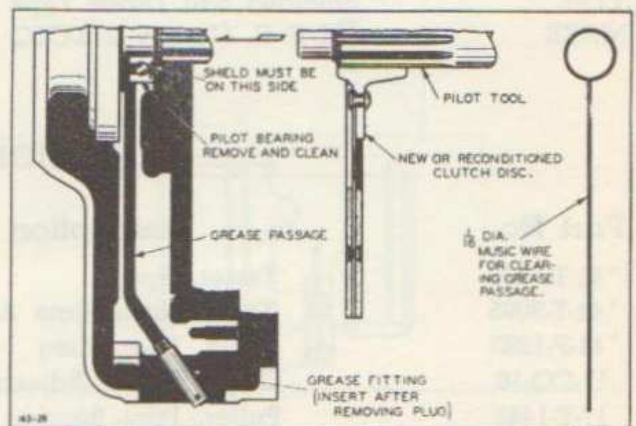

Fig. 24—Cleaning and Lubricating Pilot Bearing
Slip reconditioned or new clutch disk onto pilot tool and place tool into pilot bearing. The stub end of a discarded shaft may be used as a pilot as shown in Figure 24. Place the clutch assembly in flywheel and thread in the screws (23), holding the clutch to the flywheel, by hand until seated.